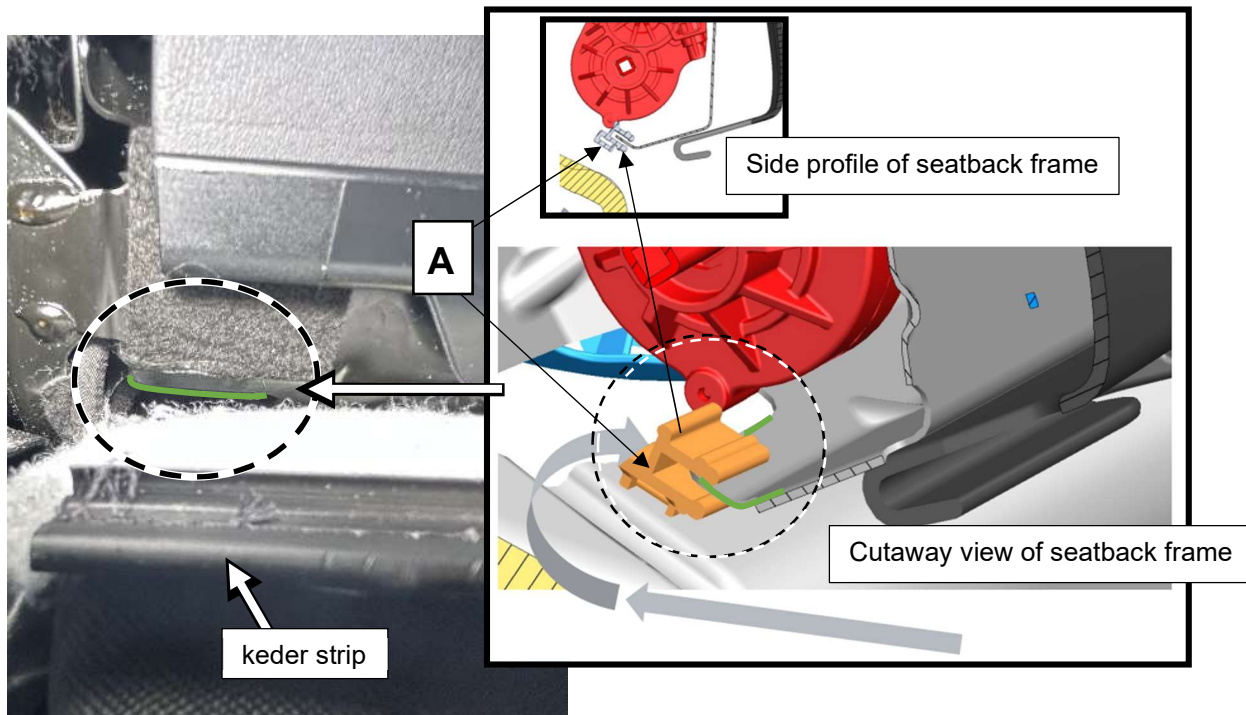
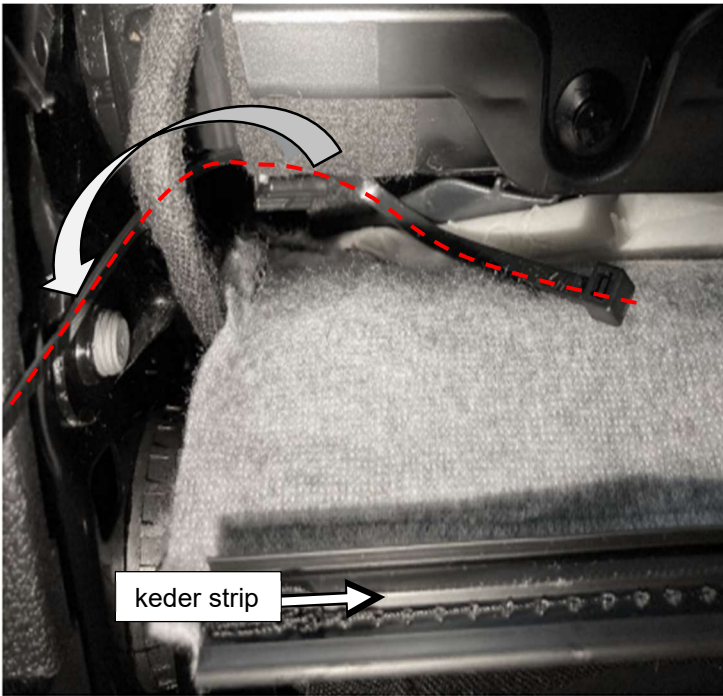

Figure 5 – fastening clip is secured to sheet metal area without felt (Figure 5, green outline).
Figure 6 – cable tie routed through fastening clip eyelet.
- Attach a cable tie with fastening clip to secure the wiring harness to the seat backrest frame. The seat backrest frame sheet metal has felt applied, and a section measuring 2-3mm **without felt** (Figure 5, green outline). Attach the fastening clip (Figure 5, A) flush to the outer edge of the sheet metal without felt and secure it flush against the sheet metal in the direction shown (Figure 5 and 6).
NOTE: The cable tie (Figure 6, red dashed line) is routed behind the seat backrest frame, through the eyelet of the fastening clip (Figure 5, A), and around the seat wiring harness to secure it from damage.